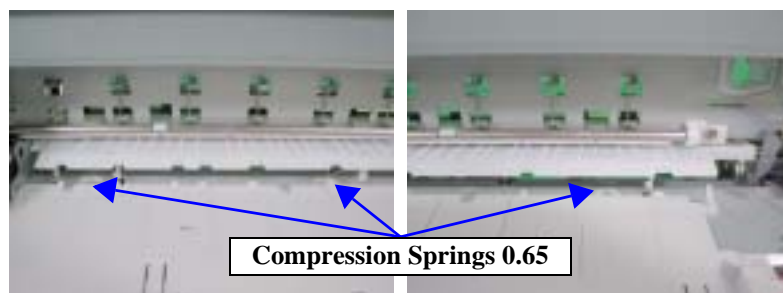

Figure 4-126. Positions of the Compression Springs 0.65
- Place the two Compression Springs 0.65, which are located on the lower side of the Rear Paper Guide as seen from the printer rear, into the recesses of the Under Frame, and reinstall the Rear Paper Guide. Refer to Figure 4-126, "Positions of the Compression Springs 0.65".
- Securely fitted into the joggles on the left and right lower sides of the Rear Paper Guide, the Compression Springs 0.65 are designed to be difficult to come off. If they have come off, however, securely insert them into the joggles on the lower side of the Rear Paper Guide. Refer to Figure 4-126, "Positions of the Compression Springs 0.65".